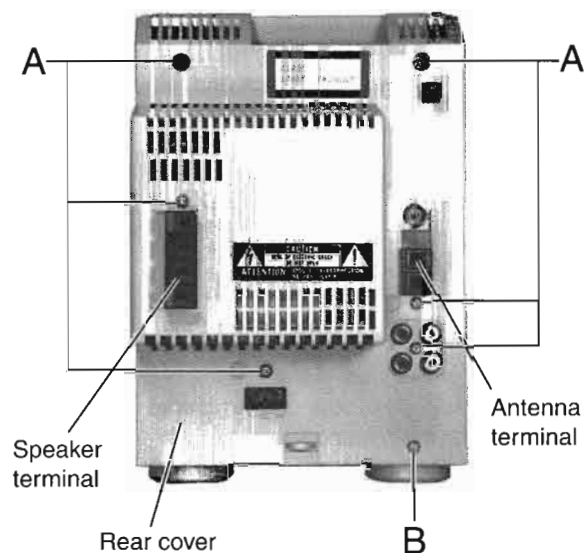

Fig. 1
■ Rear cover (Refer to Fig. 1 and 2.)